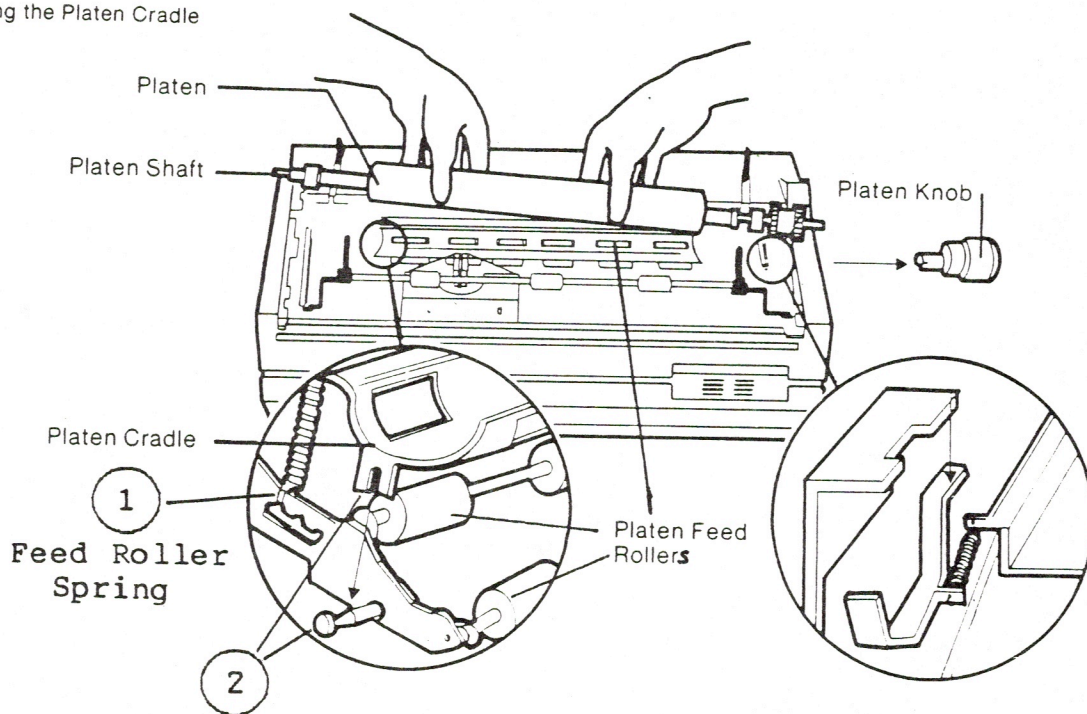

FIGURE 3
6. Check that the platen cradle is seated correctly. The notched ends of the cradle should sit squarely on the pins at the end of the feed roller assemblies. (See Figure 3, #2.)
7. Check that the four feed roller springs beneath the platen are adjusted to the middle position. **NOTE:** Figure 3, #1 shows the spring adjusted to the rear position: to move the spring to the middle position, use needlenose pliers, a screwdriver blade, a good deal of force, and care.